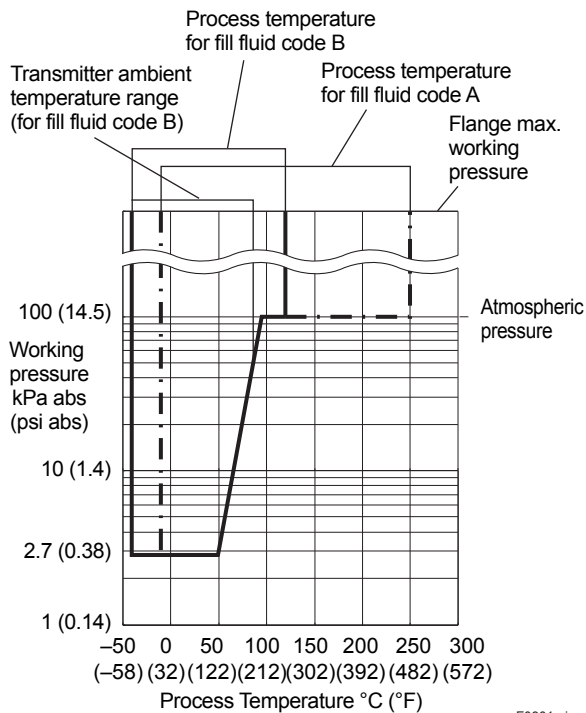

Figure 9.1 Working Pressure and Process Temperature (Fill fluid: silicone oil for general and high temperature use)
For atmospheric pressure or below, see figure 9.1.
- *1: See figure 9.1 'Working Pressure and Process Temperature.'